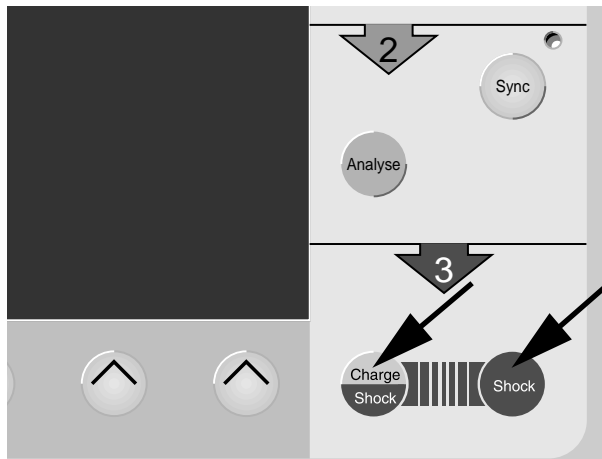

Figure 4-8. Buttons to initiate defibrillator charging and to trigger the shock
- Defibrillate the patient as described for defibrillation with paddles (page 19). Be sure to charge the defibrillator with  and to deliver the shock by simultaneously pressing the buttons  **and**  (Figure 4-8).